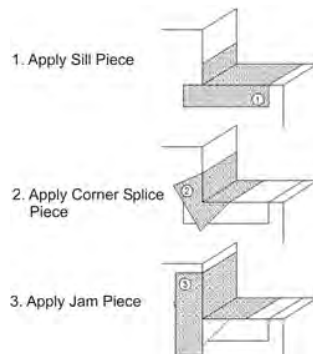

Figure 12
- 1) Apply the Dryvit Flashing Tape as shown in the detail below - Figure 12.